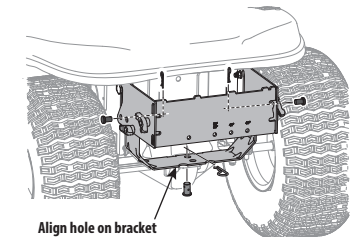

Figure 6
2. Install the clevis pin (711-0309A) from hardware pack 689-02364 into the tractor's hitch and secure with a cotter pin (714-0117). See Figure 6.
3. Install two clevis pins through the mounting assembly and secure to the 700 series mounting brackets installed earlier with cotter pins provided in the hardware pack. See Figure 6.